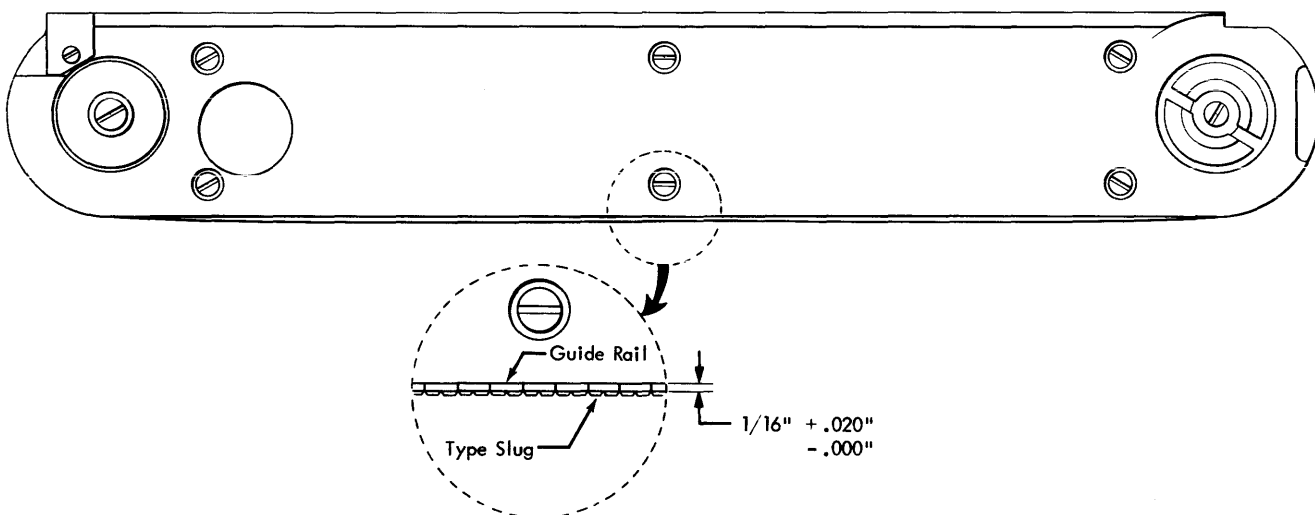

Figure 26. Correct Chain Tension
- d. The slugs in the center of the cartridge should hang out $\frac{1}{16}$ " ($+.020$ ", $-.000$ "') to ensure correct chain tension (Figure 26).